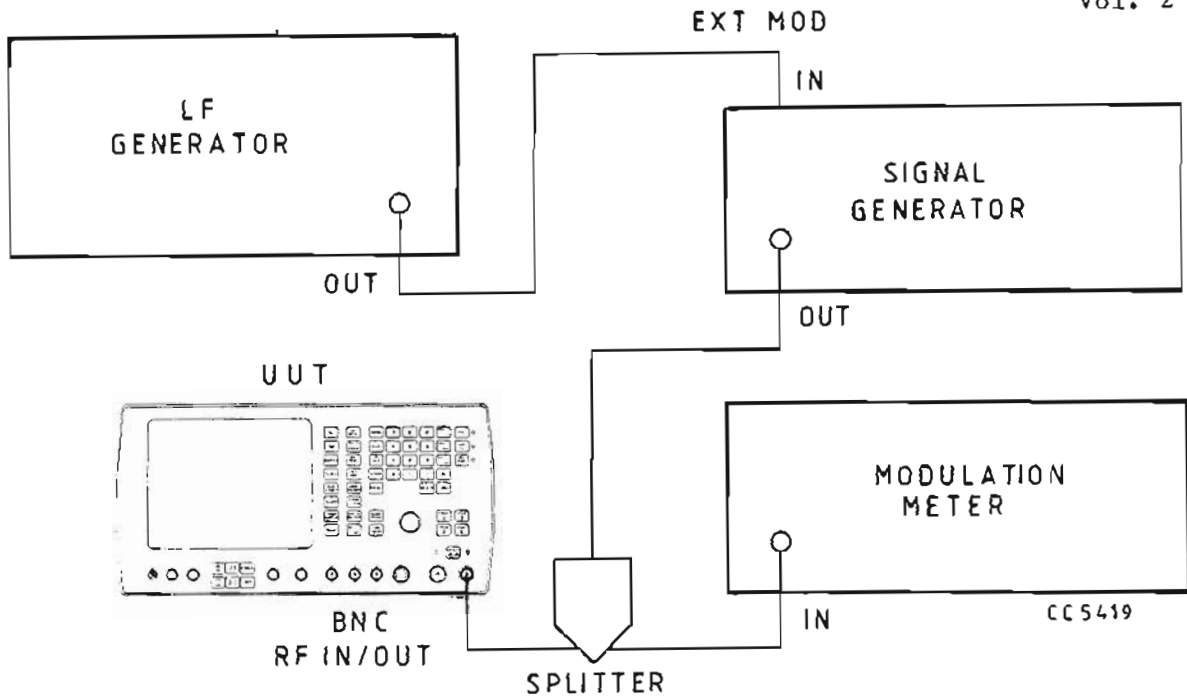

Fig. 5 Test equipment connections for modulation meter a.m. & f.m. bar chart and scope performance checks
- (1) Connect the equipment as shown in Fig. 5.
- (2) Set the u.u.t. to TX, FM, 15 kHz LOW PASS filter, b.n.c. input socket.
- (3) Set the signal generator to carrier frequency 500 MHz, level 13 dBm, 25 kHz external f.m. at 10 kHz modulation (from the l.f. generator).
- (4) Set the modulation meter to monitor f.m. in a 30 Hz to 50 kHz bandwidth.
- (5) Set the synthesized l.f. generator to give a 10 kHz sinewave. Adjust the level to suit the external modulation input of the signal generator.
- (6) Check that the modulation level indicated on the u.u.t. display is within $\pm 8.5\%$ of the modulation indicated on the modulation meter. Ensure that the correct filters are selected on both the u.u.t. and the modulation meter according to the modulation rate being used.